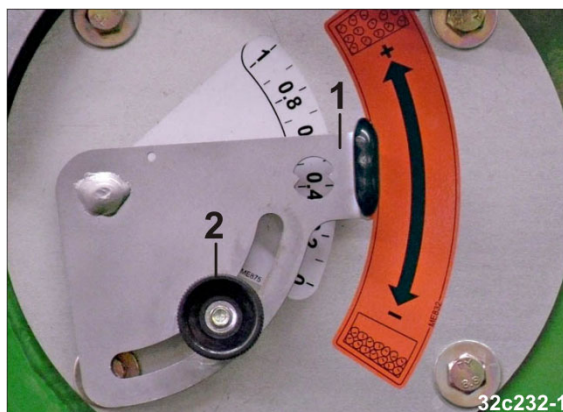

Fig. 163
1. Set the air guide with the lever (Fig. 163/1) (see setting instructions, section 5.6.3, Seite 72).
2. Secure the lever position with the knurled-head screw (Fig. 163/2).